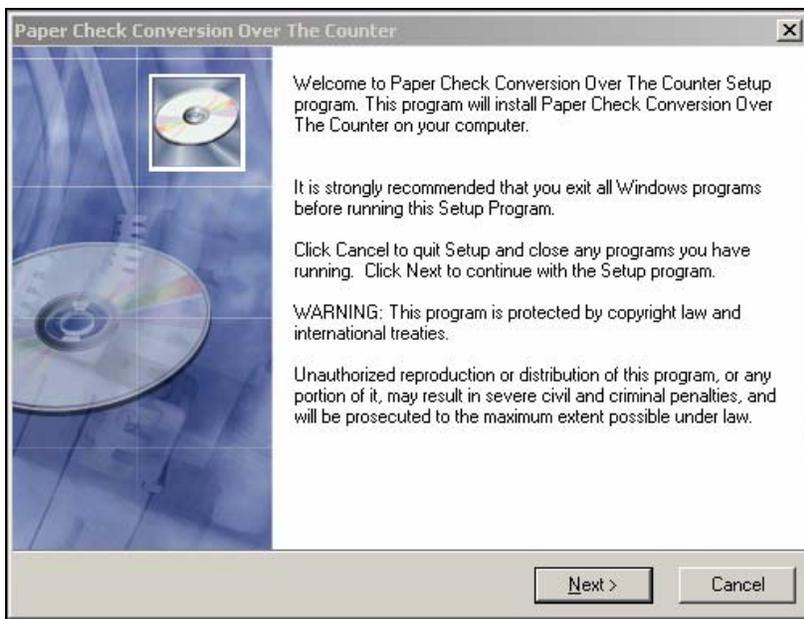

Figure 2.17.3
4. The system begins applying MSDE 2000 SP3a. This may take up to five minutes. When complete, a prompt will appear stating that the system has been updated with Microsoft SQL Server 2000 Desktop Engine Service Pack 3 and that a restart is required to continue. Click **‘Yes’**. The system will reboot. A welcome screen will appear (Figure 2.17.3), click **‘Next’**